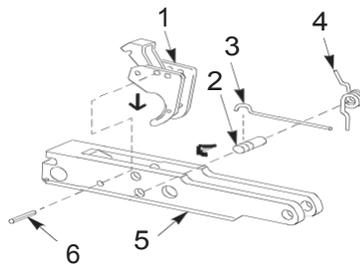

Figure 5. Trigger Assembly Installation
1. Put trigger assembly (Figure 5, Item 1) into trigger housing (Figure 5, Item 5), aligning holes.
2. Install NEW spring pin (Figure 5, Item 6) through trigger housing (Figure 5, Item 5) and trigger assembly (Figure 5, Item 5).
3. Orient sear spring (Figure 5, Item 4) with both legs forward (toward trigger assembly) and long leg pointing down into trigger housing (Figure 5, Item 5).
4. Align hole of sear spring (Figure 5, Item 4) with hole in trigger housing (Figure 5, Item 5) and install grooved pin (Figure 5, Item 2) with notch to the left.
5. Install retaining spring (Figure 5, Item 3) with hook end down in the notch of the grooved pin (Figure 5, Item 2).